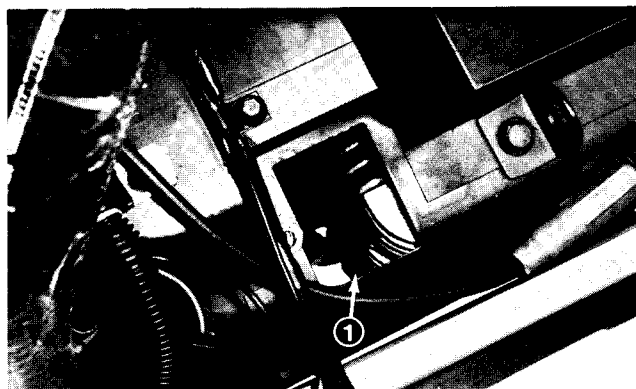

Figure 12
6. Clean dirt, grass and chaff from the outside of the cylinder and cylinder head fins through the opening (Fig. 12). The sheet metal housing may be removed for easier access.